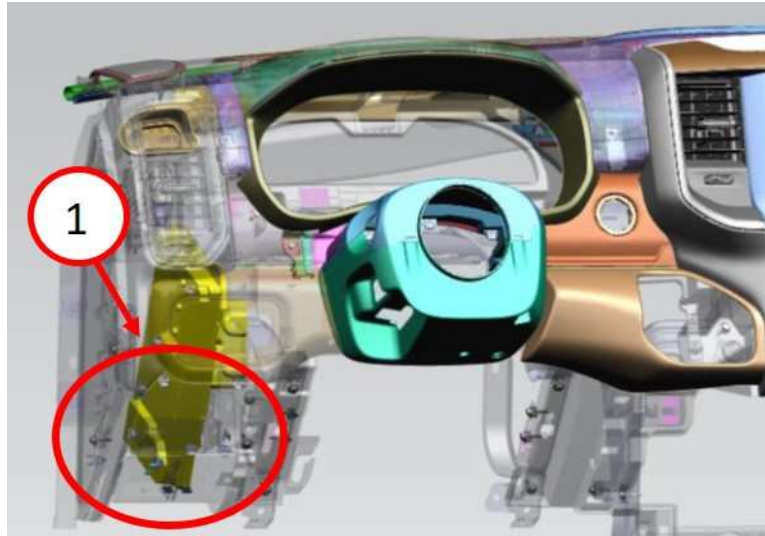

Fig. 1
1. Remove the steering column opening cover. Refer to the detailed service procedures available in DealerCONNECT/Service Library under: Service Info 23 - Body/Instrument Panel/Cover, Steering Column Opening/Removal and Installation . Inspect bolt location (Fig. 1) and grab amplifier assembly to confirm solid attachment by trying to rock side-to-side.